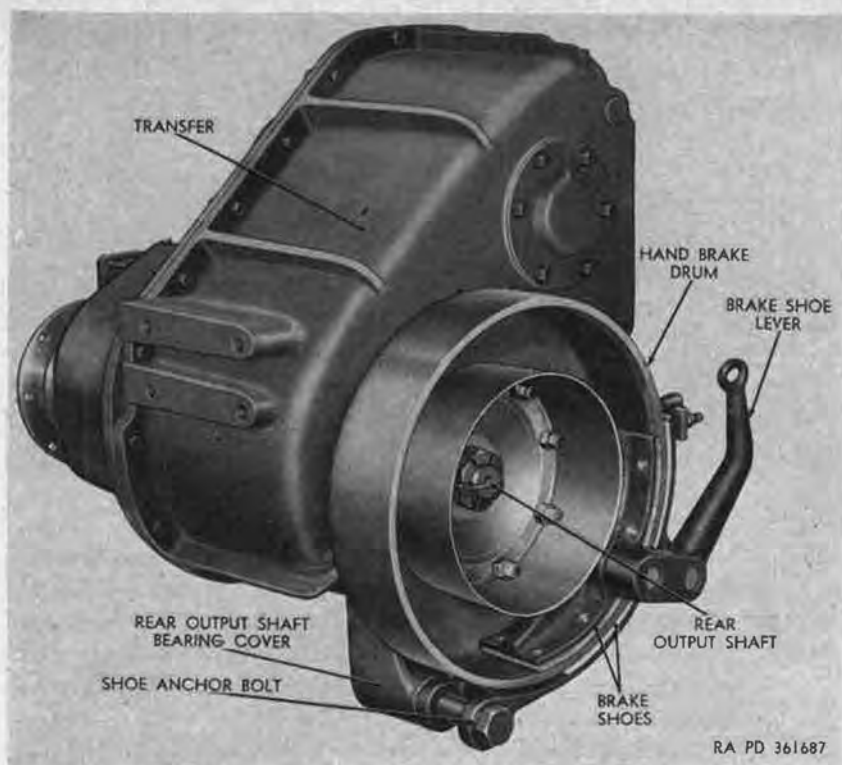

Figure 239. Hand brake mounted on rear of transfer.
- (2) *Hand brake.* The hand brake consists of a brake drum (fig. 239) and a pair of brake shoes mounted at the rear of the transfer and actuated by a cable connected to the hand brake lever (par. 25) in the cab. The drum is bolted to the transfer rear output shaft, and the two brake shoes are pinned together and then bolted to a bracket extending from the transfer rear-output-shaft-bearing cover. Operation of the